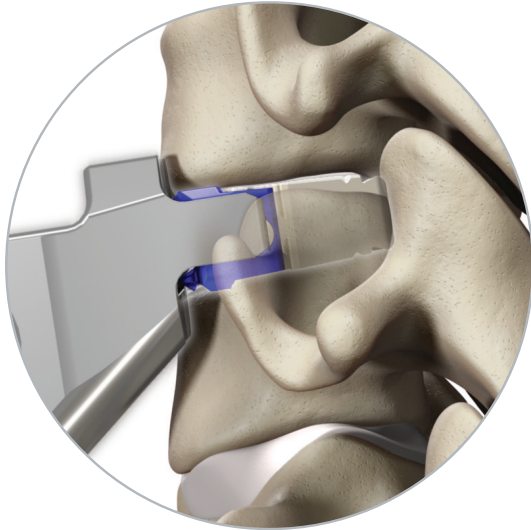

Figure 68
- Ensure that the plate fits snugly between the adjacent vertebrae, and then release distraction while leaving the ATO inserter guide attached to the implant construct. The modular handle can be removed temporarily from the inserter to increase visibility for screw preparation and delivery (Figure 68).